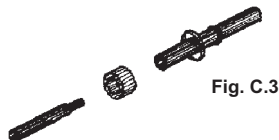

Fig. C.3
- 2) Insert the crimping ring on the connector, as in Fig. C.3.